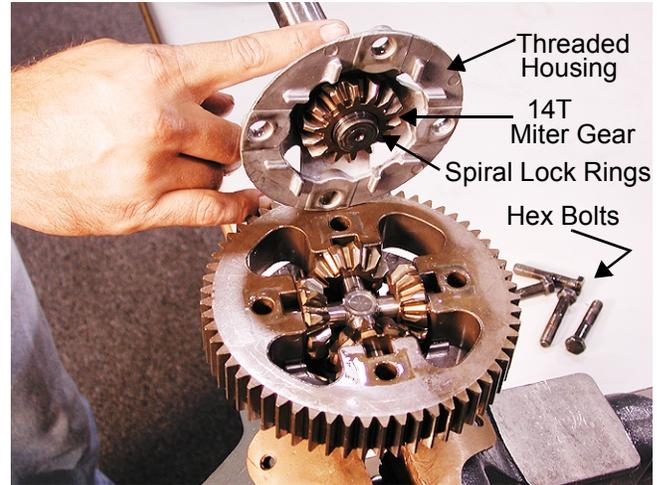

Figure 23
- 28.1. Remove the left axle, differential threaded housing, 14T miter gear and the spiral lock snap rings from the differential housing assembly. See Figure 23.